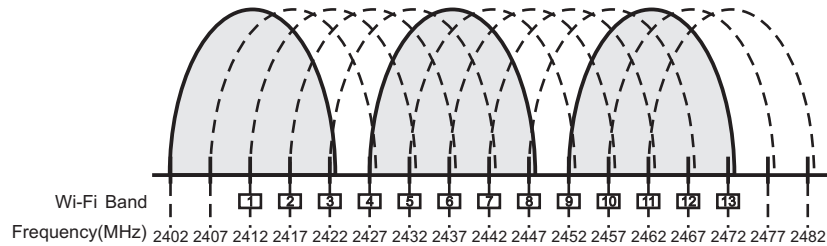

Fig. 7
- (1) Position the MA-303DG/SG at least 5-meter away from WiFi, Bluetooth or other 2.4 GHz transmitting devices.
- (2) Line-of-sight between the transmitter and MA-303DG/SG provides the ideal reception range.
- (3) User can scan environment for WiFi devices with smartphone app, normally WiFi channel selections are 1, 6, 11.
(4) Wi-Fi Channel Distribution, Fig. 7: